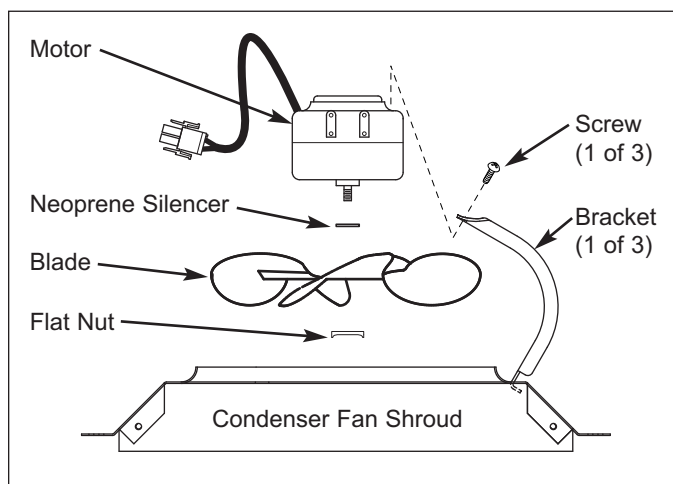

Figure 7-43. Condenser Fan Assembly
3. Remove condenser fan from shroud by extracting the screws securing the motor to the brackets. The brackets will unhook from the grommets in the condenser fan shroud after the screws are removed. (See Figure 7-43)
4. To remove fan blade from the fan motor, grab the blade and motor while turning the nut counterclockwise. Then pull the blade from motor shaft. (See Figure 7-43)